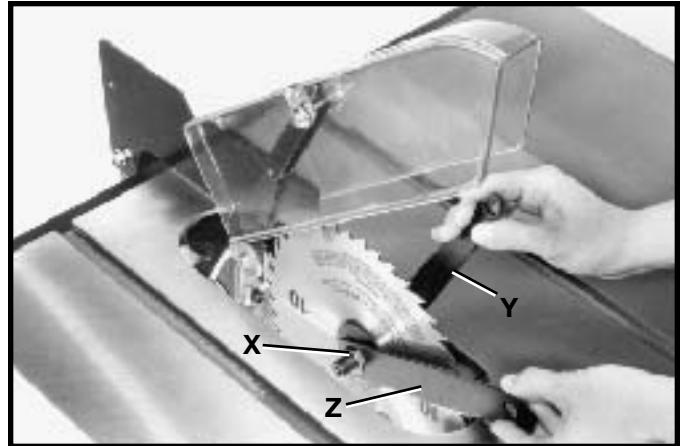

Fig. 34
11. Reassemble the saw blade, making certain the teeth are pointing down at the front of the saw table as shown in Fig. 34, and assemble the outside blade flange and arbor nut (X). With open end wrench (Y) on the flats of the arbor to keep it from turning, tighten arbor nut by turning box end wrench (Z) counterclockwise.